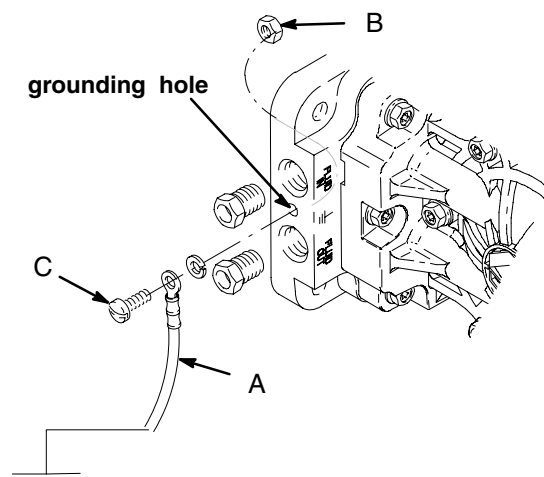

Fig. 1
The *polypropylene* and *PVDF* pumps are **not** conductive. When you pump conductive flammable fluids, **always** ground the entire fluid system. Make sure the fluid has an electrical path to a true earth ground, see Fig 1. **Never** use a polypropylene or PVDF pump with non-conductive flammable fluids as specified by your local fire protection code.
Pump: Connect a ground wire (A) and clamp, Part No. 819.0157. See Fig. 1. The pump grounding locations are on the manifold between the inlet and outlet ports. Use the nut (B) and bolt (C) that are provided with the pump, and install as follows: